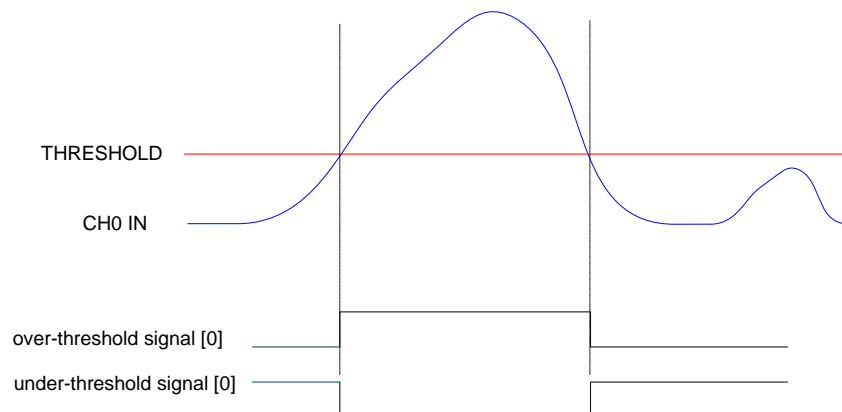

Fig. 10.13: Channel over/under threshold signal
- an *over/under-threshold signal* (see Fig. 10.13). This signal can be programmed to be active (i.e. “1”) as long as the input pulse stays over the threshold or under the threshold (depending on the trigger polarity bit at register address 0x8000).